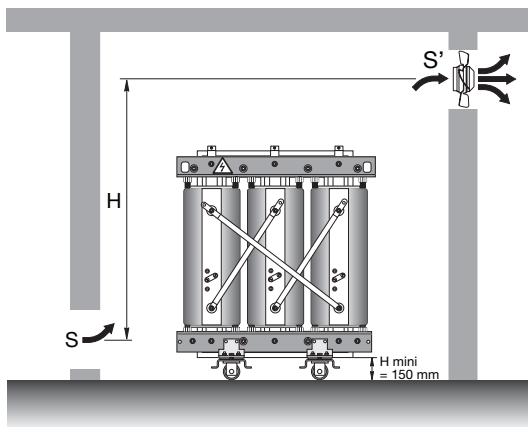

figure 2 - substation forced ventilation
■ Trihal with IP 31 metal enclosure (figure 2).